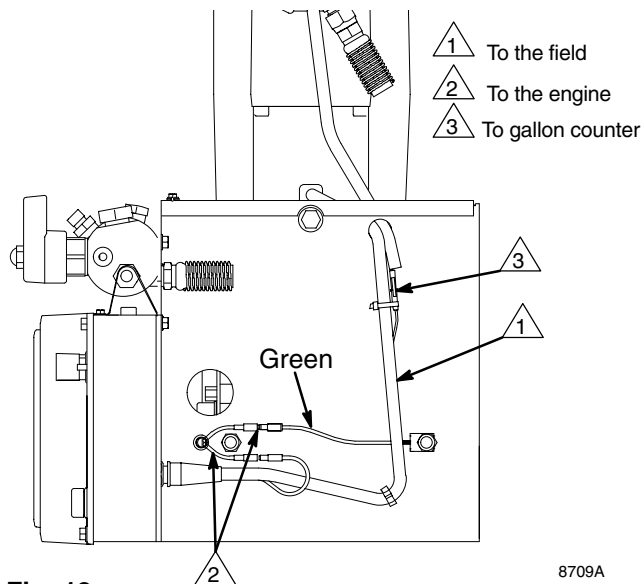

Fig. 12
2. Fig. 12. Disconnect all necessary wiring.
3. Fig. 12. Connect all necessary wiring.